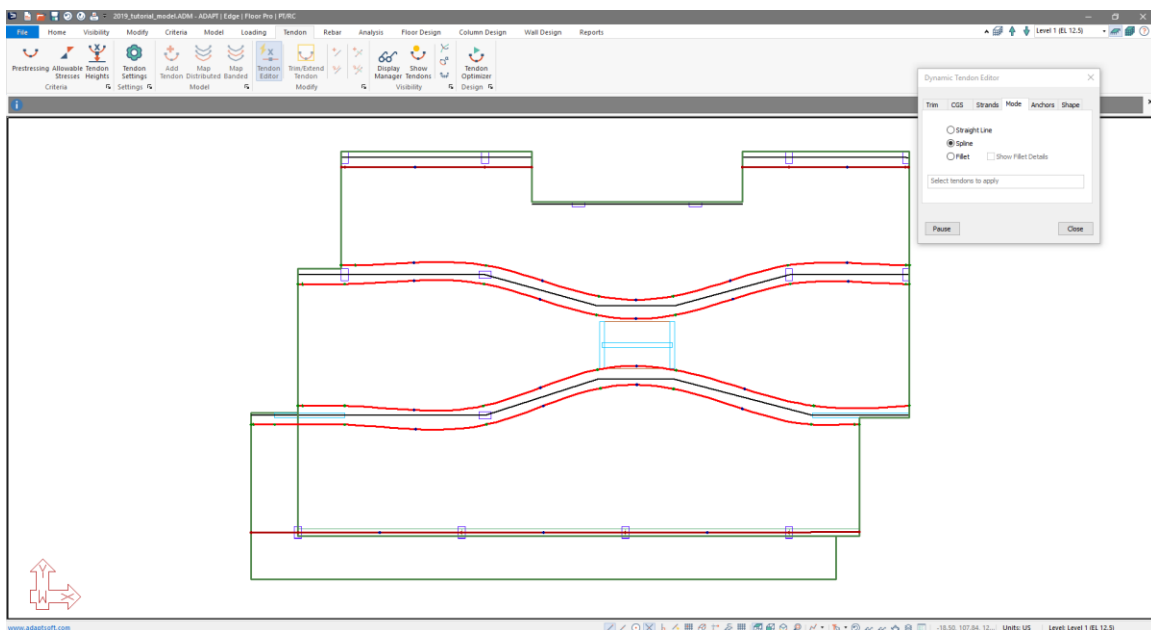

Figure 9-48
- Window select the 4 tendons in the 2nd and 3rd banded tendon lines to change them to *Spline* tendons. The tendons should now have a spline curve to them on plan as shown in **FIGURE 9-48**.